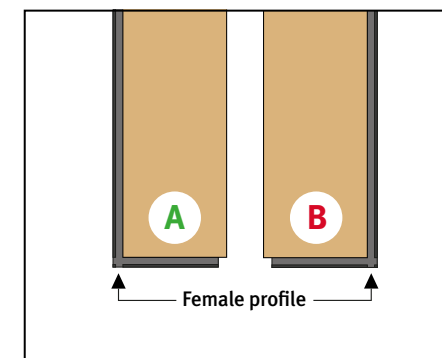

Figure 24
- > The key to a successful floating Herringbone installation is to first form a number of triangles from A and B planks as shown below in (Fig 24) which fit along the longest wall to commence the installation.
- > Contact Polyflor Customer Technical Services Department \(CTSD\) on +44 (0)161 767 1912 for further advice.
- > A-planks can be identified by the lower female profile being on the Left-hand side; and the B-planks with the lower female profile on the Right-hand side (Fig 24).